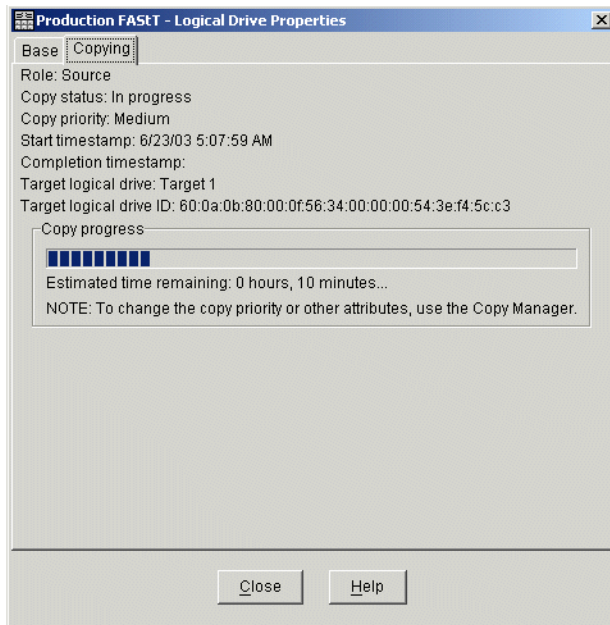

Figure 9-11 Logical Drive Properties - Copying tab
- If the logical volume you have selected is part of a VolumeCopy relationship, then the Copying tab is present. Select the **Copying** tab (Figure 9-11).